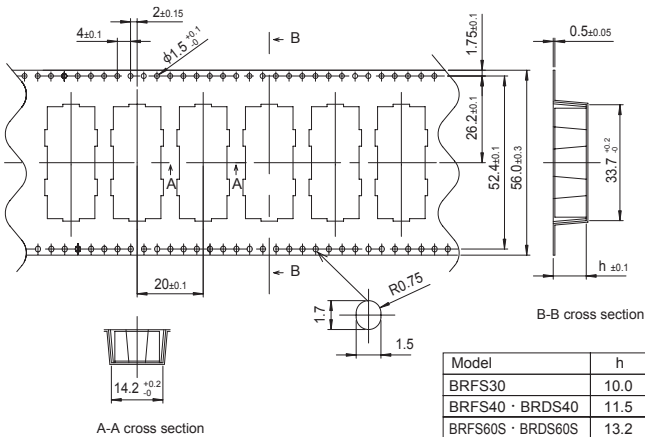

Fig.9.1 Taping dimensions of BRFs30/40/60S · BRDS40/60S
- Please refer to a Fig.9.1 to Fig.9.4 for Package form (Reel).